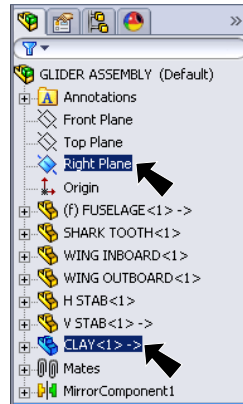
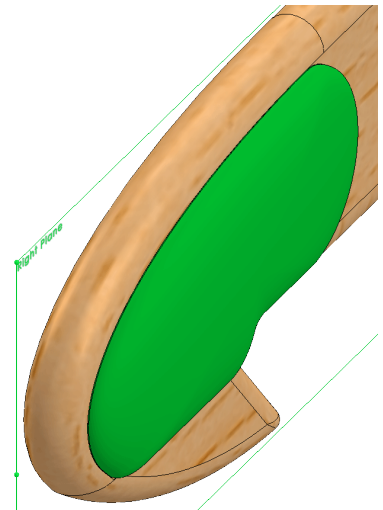

Fig. 31
Fig. 32
Step 1. **Ctrl** click the **Right Plane**  and **CLAY** in the Feature Manager to select both, **Fig. 31** and **Fig. 32**.